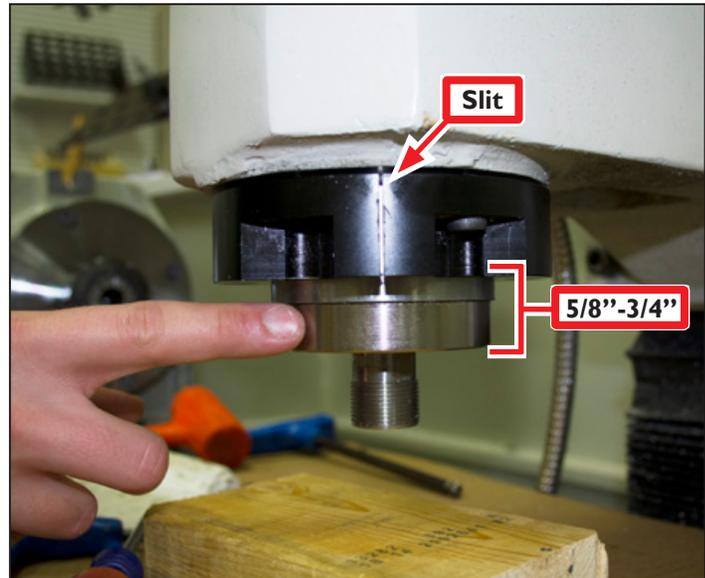

Figure 18
7. Adjust spindle depth in collar until between 5/8" to 3/4" of spindle is exposed beyond bottom of Clamping Collar as shown in **Figure 18**.